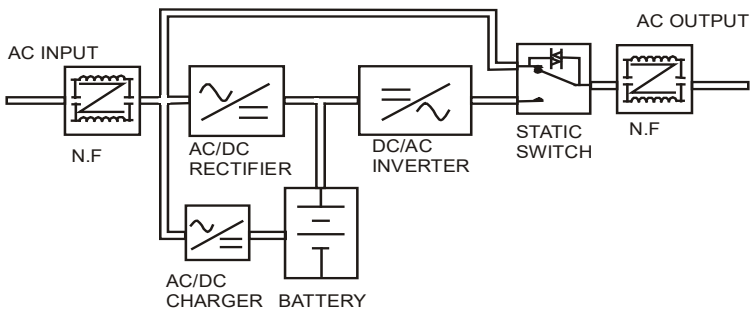

Figure 21: UPS System Block Diagram
7.1 UPS System Block Diagram (Fig.21)